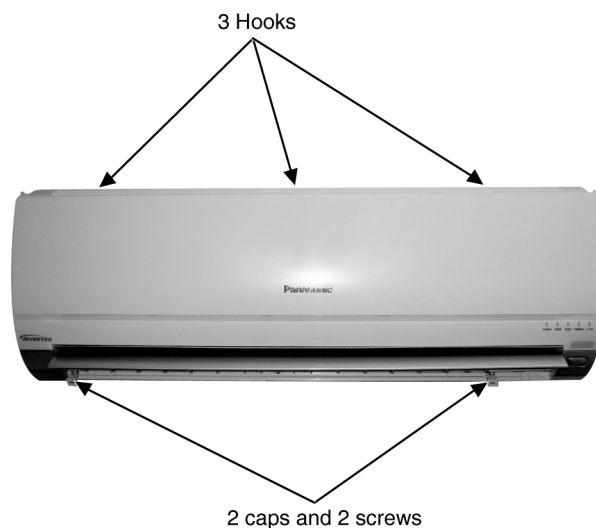

Fig. 1
- Lift to open the vertical vent gently. Remove the 2 caps and 2 screws at the bottom of discharge vent. (Fig. 1)
- Remove the Front Grille by releasing the 3 hooks at the top of the Front Grille. Hold both sides of the Front Grille and remove it by pulling up and towards you gently. (Fig. 1)